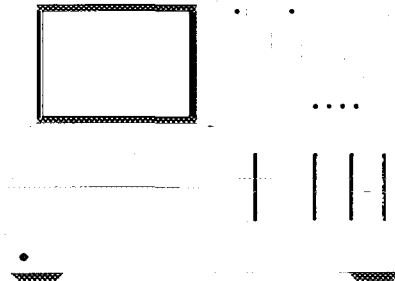

Figure 1-17. Checking the Operation (Option 011)
- 3 Press PRESET, and observe that the analyzer is operating properly as shown in Figure 1-17.